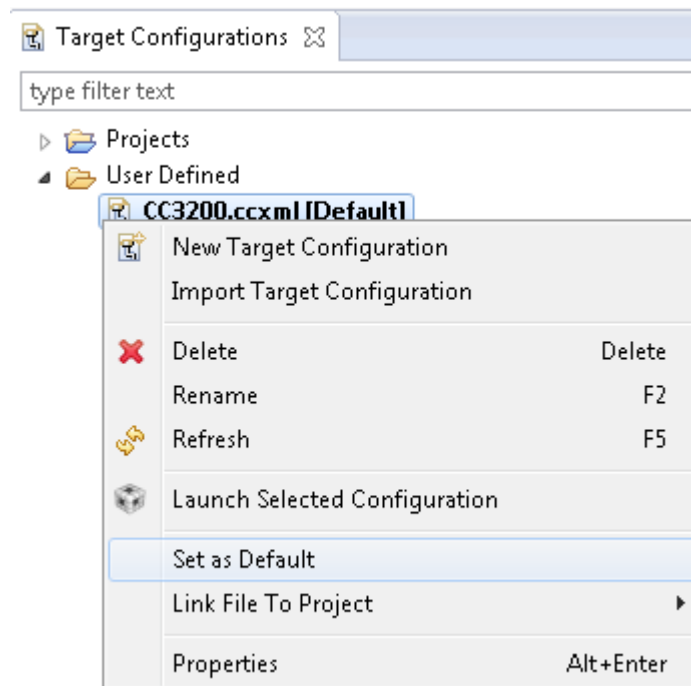

Figure 12. Set as Default
15. Set this new configuration as the default by right-clicking on the file name, as shown in Figure 12.